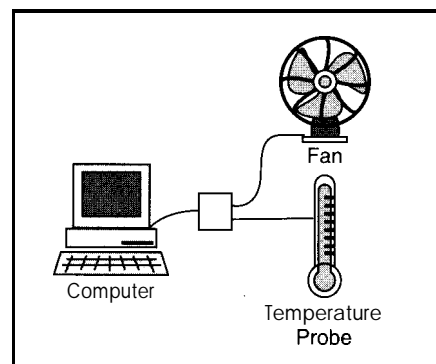

Figure 1: A single computer attaches to a temperature probe and a fan.
**Listing 1: Here's some pseudocode of the simple temperature-control system shown in Figure 1. All the system peripherals are attached to local I/O ports.**
Figure 1 shows a typical hardware configuration for a simplistic temperature-control system. A computer monitors the temperature, and if it's too warm, it turns on a fan. When the temperature drops, the fan turns off. The code for this elementary system might resemble listing 1.